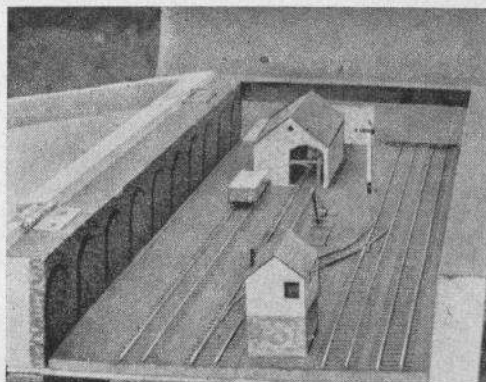

Fig. 4
Finally, to get a complete picture, I have included Fig. 4—part of a small Goods Yard adjoining a Main Line. The overall dimensions, including the box itself, are only 2 ft. long by 10 in. wide. The same layout with the same spacing in 4 mm. scale would need a box 3 ft. 3 in. long by 16 in. wide. A folding baseboard which opens out to measure 2 ft. 6 in. by 6 ft. is small enough in all conscience for 4 mm. work. "One small country station and yard" would be the verdict of most sensible modellers. But a board 2 ft. 6 in. by 6 ft. for 2½ mm. working is the equivalent of one 4 ft. by 9 ft. 8 in. in 4 mm. scale—which is an entirely different proposition.
Three typical mid-sections are shown in Fig. 4. No. 1 is that of an old-fashioned 10-Rater, and without the fin keel is very like that of a modern racing dinghy. This section produces a very easily driven hull, but unless very deep is a light displacement section.
I must now introduce you to the "Metacentric Height" (denoted "M" on the sketches in Fig. 4). This can be termed the measure of initial stability and it will be seen that in Fig. 4 (1) it is very high at low angles of heel, but falls rapidly as the heel increases, while in Nos. 2 and 3 it is low to start with but remains fairly steady at all reasonable angles of heel. This is the condition we must strive for in our designed mid-section.